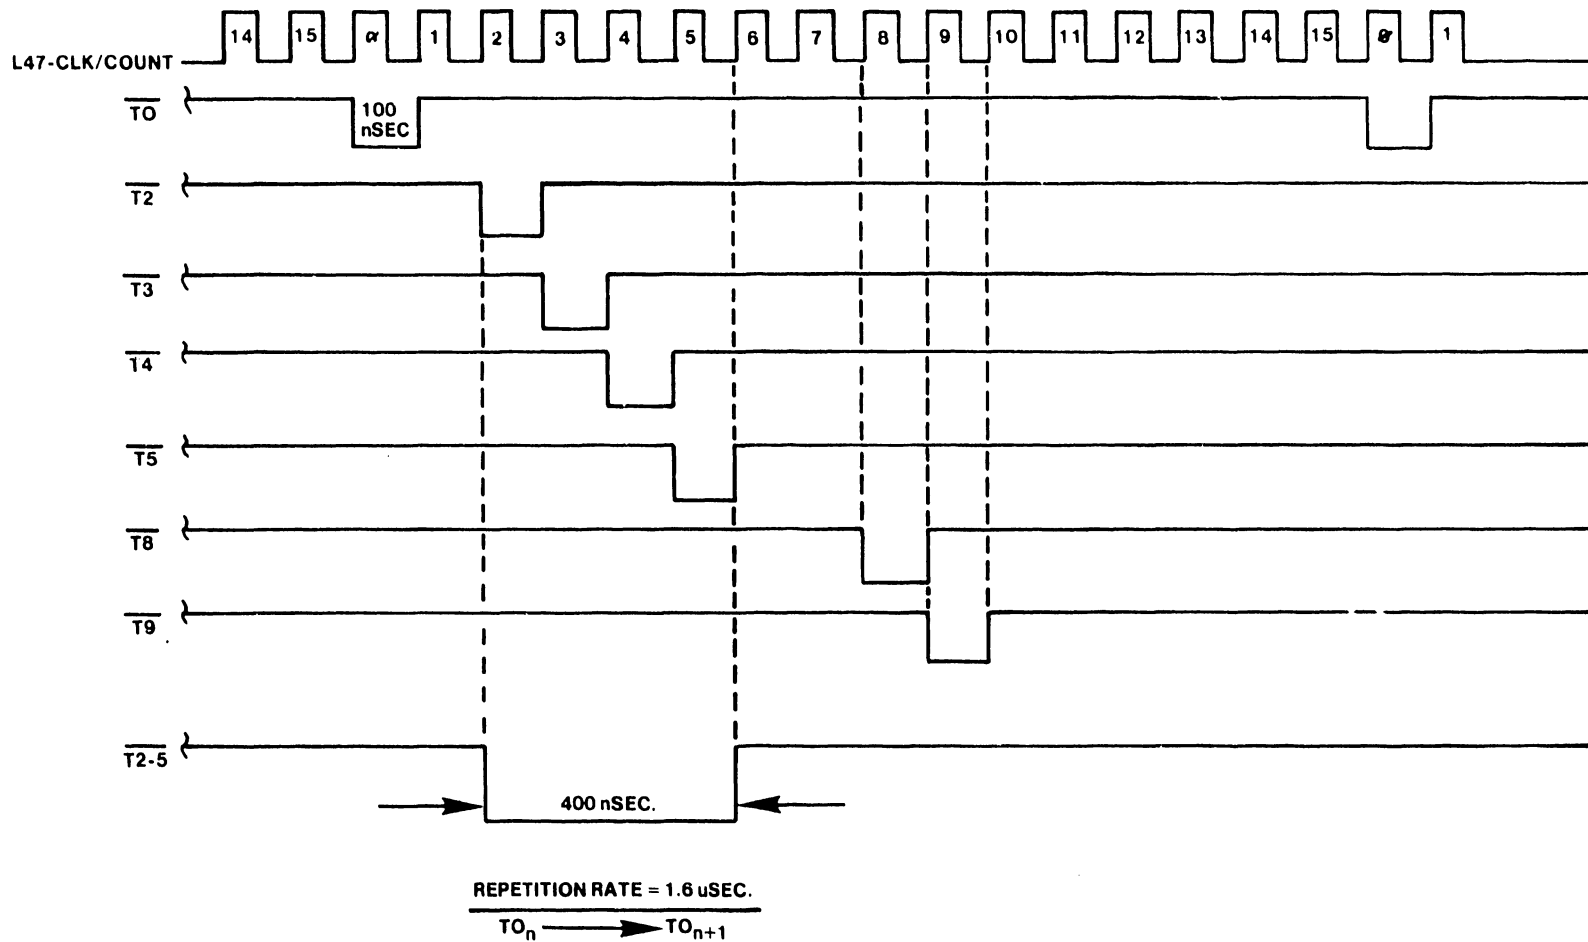

Figure 5-2. Timing Chart
**5.1.1.1 Clock** (see timing chart, figure 5-2) -- The clock circuit produces 16 clock cycles, each 100 nsec in duration. This results in a machine-cycle speed of 1.6 usec (1600 nsec). The clock cycles are applied to a bcd-to-decimal (4-to-10) decoder which generates 8 clock pulses that are used in the DPU. These clock pulses and the events that occur at that specific time are listed below.
### 5.1.2 WL No. 210-7421-A ALU/MUX Interface Board (see figure 5-2)